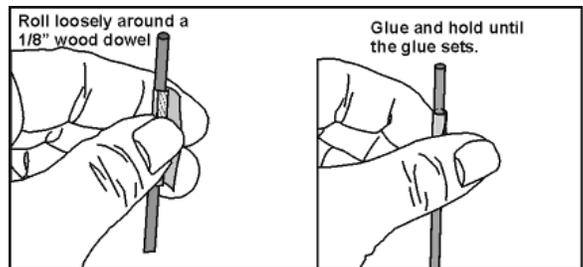

Figure 8
8. Cut out the **Launch Lug** and begin curling it as you did with the Body Tube and Nose Cone. After curling, roll the Launch Lug tightly upon itself to help it retain its shape. Referring to **Figure 8**, apply a bead of glue along the glue tab and roll the launch lug over a 1/8" length wood dowel. Press and hold until the glue has set. Remove the wood dowel as soon as possible to prevent it from being glued inside the Launch Lug. **NOTE:** The Launch Lug will be larger in diameter than the dowel. Make sure that, as you wrap the lug around the dowel, that you do so very loosely.